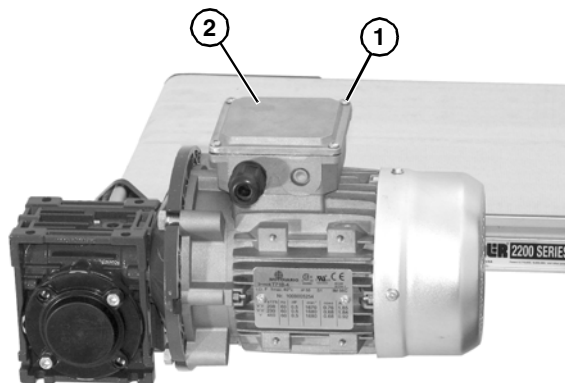

Figure 36
1. Loosen terminal box screws (**Figure 36, item 1**) and remove cover (**Figure 36, item 2**).